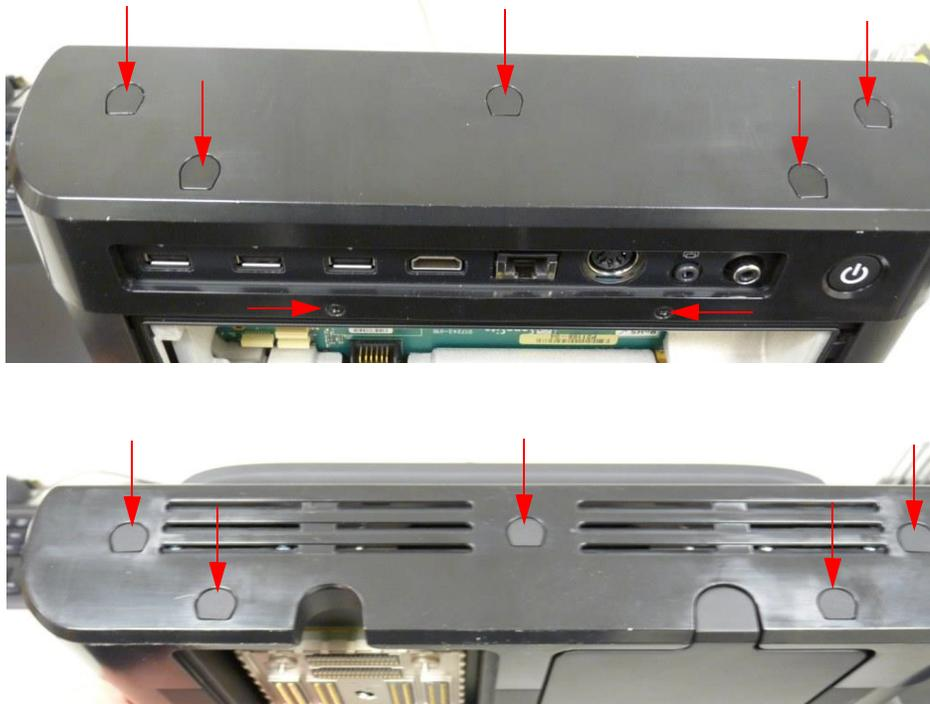

Figure 6.1 Screw Cap Removal
- 2 Use X-Acto knife or equivalent to remove screw caps from the Top Cap Assembly and Bottom Cap as shown in Figure 6.1.
- 3 Remove five screws each from Top Cap Assembly and Bottom Cap. Remove additional two screws from back of Top Cap Assembly also shown in Figure 6.1
- 9 Install the two small screws in the Top Cap Assembly and tighten to 3.0 in-lbs. as shown in Figure 6.1